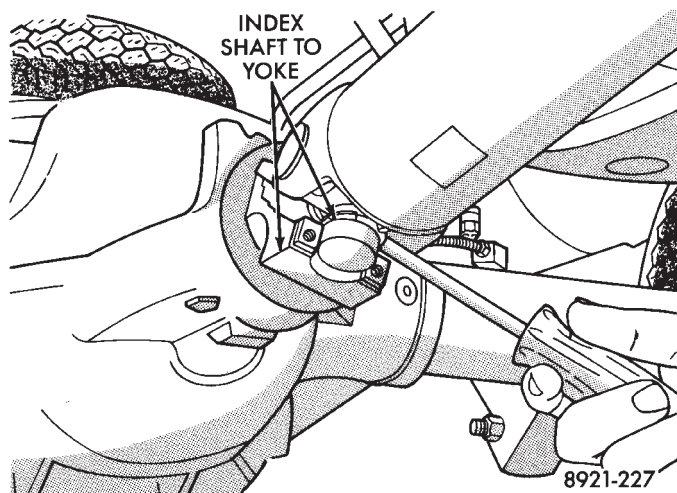

Fig. 1 Marking Propeller Shaft And Yoke For Alignment Reference
- (1) Raise vehicle on hoist.
- (2) Remove skid plate, if equipped.
- (3) Mark front and rear propeller shafts and U-joints for alignment reference (Fig. 1).
- (4) Disconnect and remove both propeller shafts.
- (5) Disconnect vehicle speed sensor and transmission output shaft speed sensor wires.
- (6) Disconnect electrical wires from clips on transmission and transfer case.
- (7) Disconnect transfer case shift linkage at transfer case range lever. Then remove linkage bracket bolts and remove linkage and bracket from transfer case. Move linkage aside for clearance.
- (8) Remove nuts attaching transfer case to overdrive unit gear case.
- (9) Remove transfer case. Support transfer case with transmission jack. Secure transfer case to jack with safety chains. Then move transfer case rearward and off transmission.
- (10) Remove transfer case from transmission jack and place transfer case on bench.
- (11) Support transmission with transmission jack.